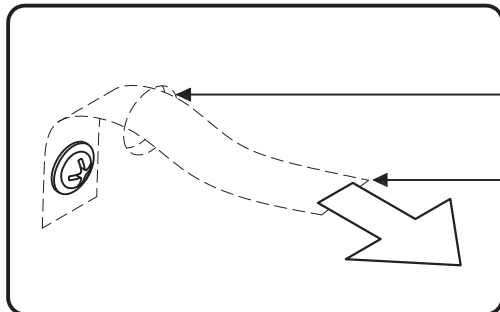

Figure 5
Move unit back into place and insert Tipover Restraint into unit through hole in Back Panel (K). (See Figure 5)